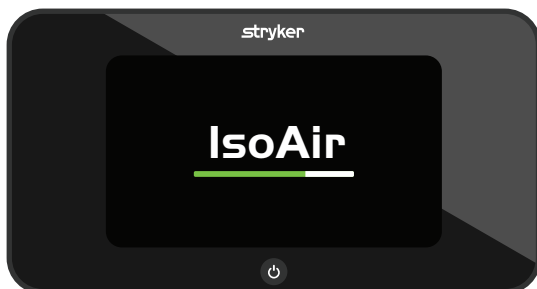
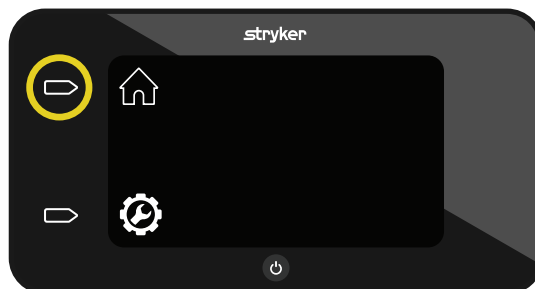

Figure 3 – Software loading
Figure 4 – Service screen home
3. As the software loads, press the **ON** button within five seconds (Figure 3). Press and hold the **Action** button next to the **Home** icon (Figure 4).